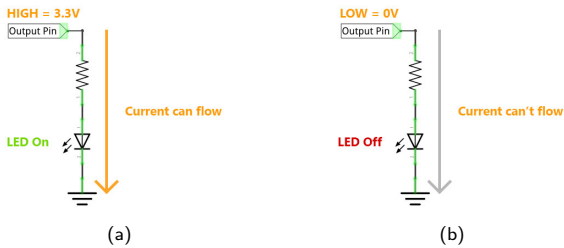

Figure 2.1. Active-high LED circuit: (a) A logical high turns on the LED; (b) A logical low turns off the LED.
- **Active-high:** the active-high LED circuit is shown in Figure 2.1. The LED is on when the output pin is high. It is called active-high because a logical high is needed to activate (turn on) the LED. When a logical high is written to the output pin, the current can flow through the resistor and LED, and then flows to the GND. Therefore, the LED is on. When a logical low is written, the current can't flow. Therefore, the LED is off.